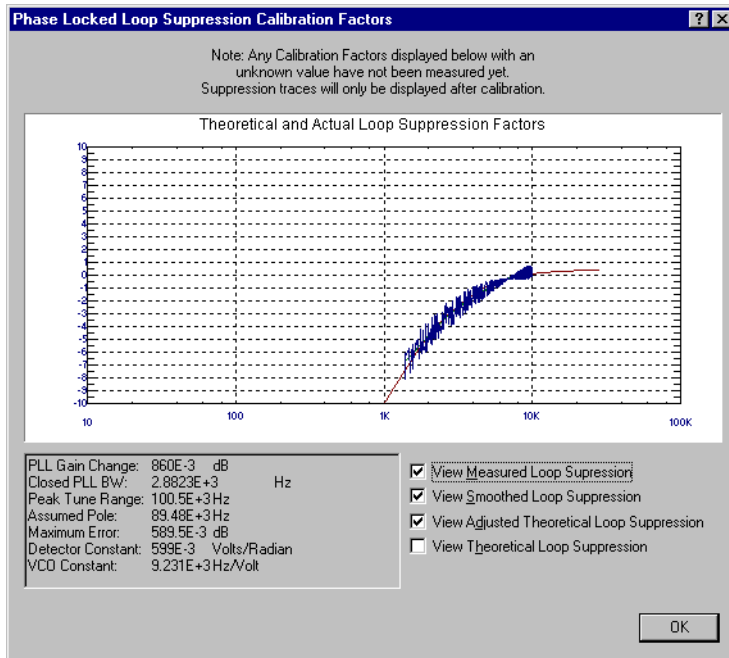

Figure 7-32 Selecting Suppressions
- 2 When the PLL Suppression Curve dialog box appears, select **View Measured Loop Suppression**, **View Smoothed Loop Suppression**, and **View Adjusted Loop Suppression**. See Figure 7-32.